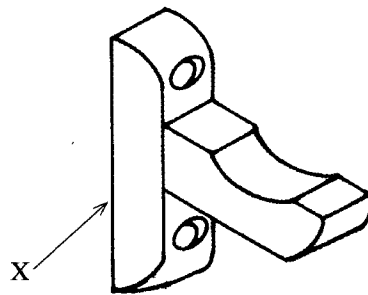

Figure 4
- 10 Figure 4 shows a pictorial view of a wooden coat hook. (2 marks)